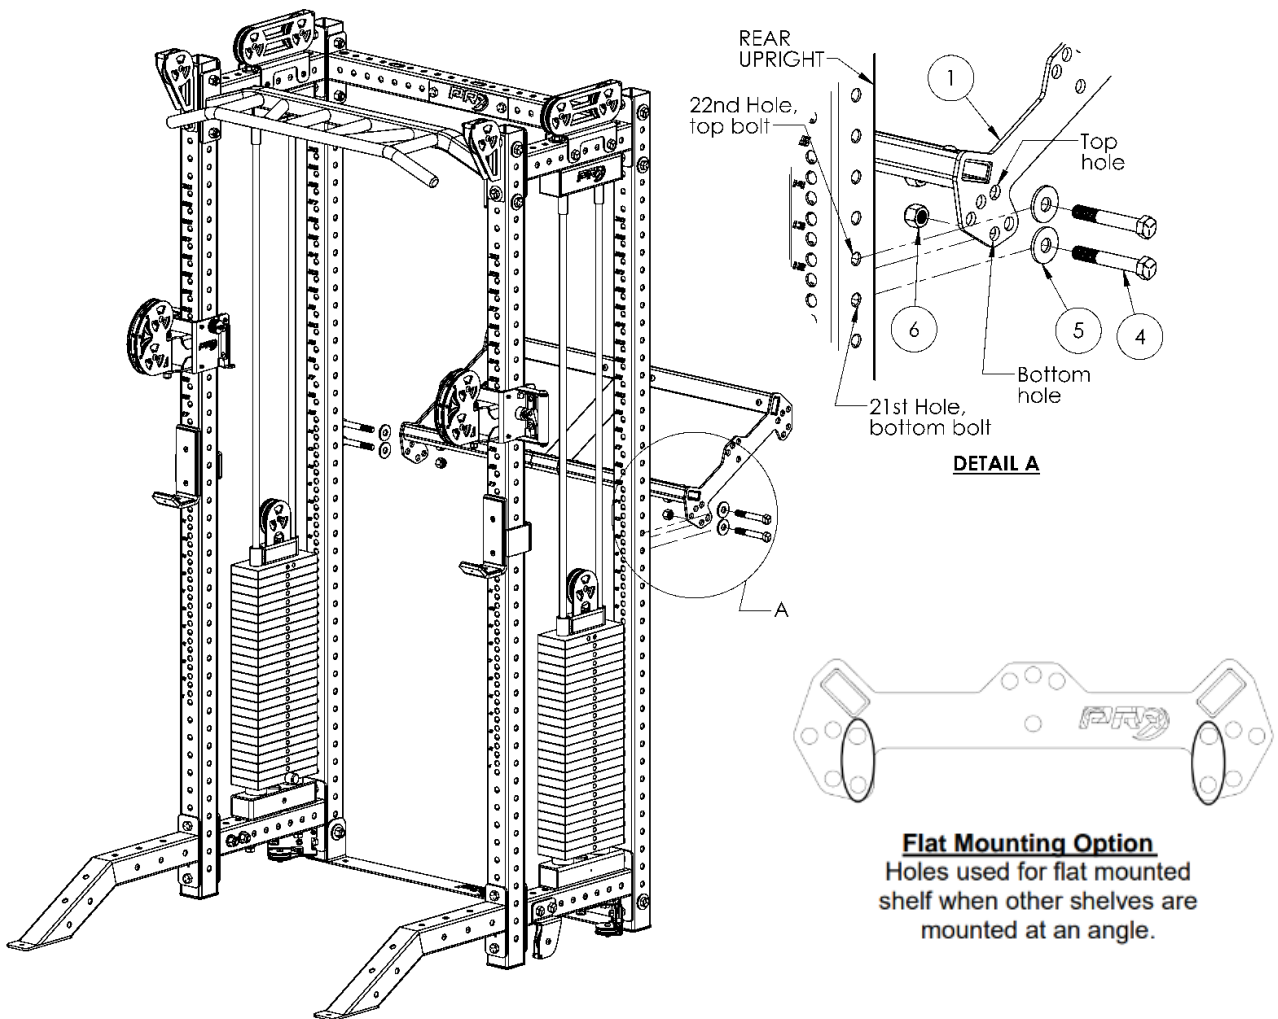

Figure 1
4. Attach top Dumbbell Shelf (1) between the rear uprights of your Half-Rack with the 5/8" hardware (4), (5), (6). Top shelf will use the 21st and 22nd holes up from the floor. **Figure 1**
*NOTE: Configuration of shelves shown in instructions are recommendations based on ergonomic testing. If you choose to configure the shelves with a mixture of angled and flat shelves, please refer to "Flat Mounting Option". **Figure 1***